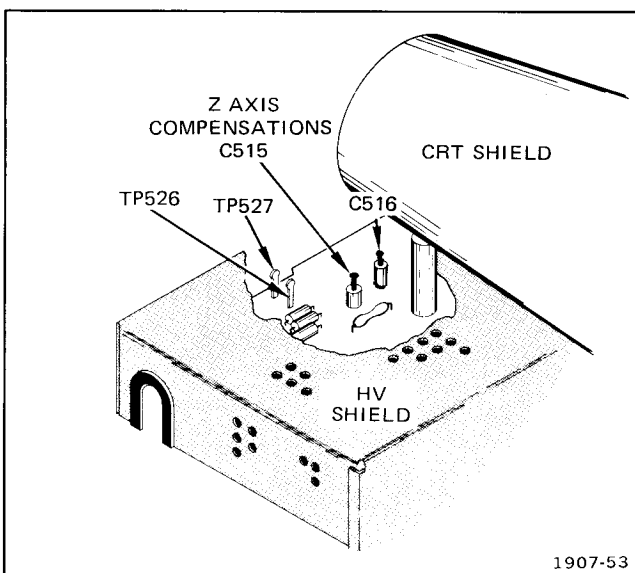

Fig. 6-2. Z axis compensation adjustment locations.
- b. Connect digital voltmeter between TP526 (see Fig. 6-2) and ground.
c. Connect test oscilloscope, through 10X probe to TP527 (near TP526, see Fig. 6-2). Set test oscilloscope to display about 4 division positive-going pulse. High-voltage oscillator signal will be visible but should be ignored when making following adjustments.
d. ADJUST—Z Axis Compensations, C515 (see Fig. 6-2) and C516, for optimum square corner of pulse on test oscilloscope.